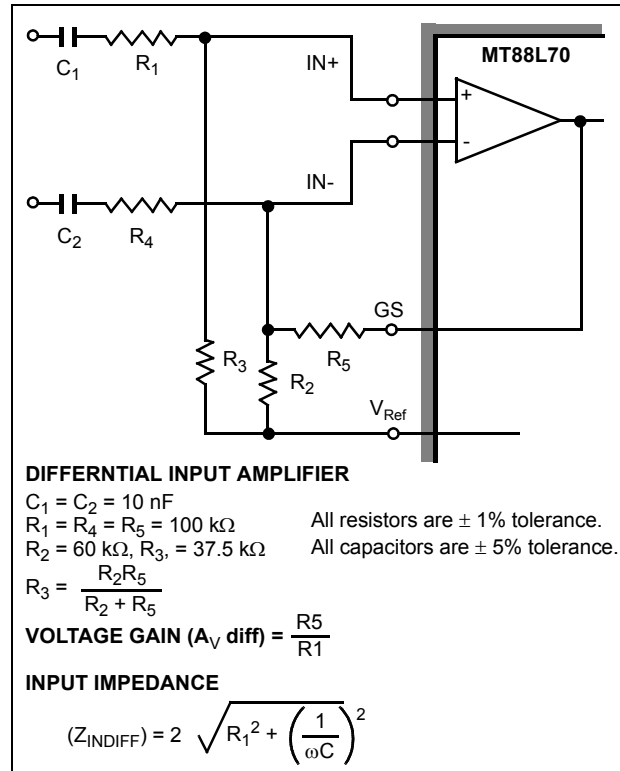
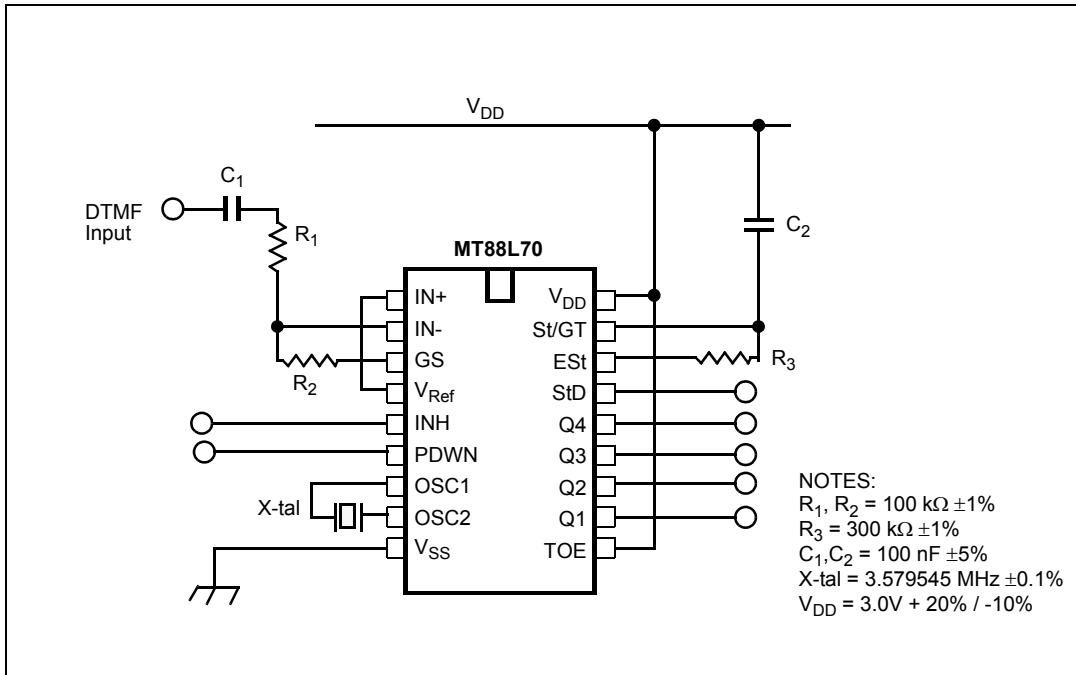

Figure 5 - Differential Input Configuration
Figure 6 - Single-Ended Input Configuration
The input arrangement of the MT88L70 provides a differential-input operational amplifier as well as a bias source (V_{Ref}) which is used to bias the inputs at mid-rail. Provision is made for connection of a feedback resistor to the op-amp output (GS) for adjustment of gain. In a single-ended configuration, the input pins are connected as shown in Figure 6 with the op-amp connected for unity gain and V_{Ref} biasing the input at $1/2V_{DD}$. Figure 5 shows the differential configuration, which permits the adjustment of gain with the feedback resistor R_5 .
The internal clock circuit is completed with the addition of an external 3.579545 MHz crystal and is connected as shown in Figure 6 (Single-ended Input Configuration).
A single-ended input configuration is shown in Figure 6. For applications with differential signal inputs the circuit shown in Figure 5 may be used.
AC Electrical Characteristics - $V_{DD} = 3.0\text{ V} +20\%/ -10\%$, $V_{SS} = 0\text{ V}$, $-40^{\circ}\text{C} \leq T_O \leq +85^{\circ}\text{C}$, using Test Circuit shown in Fig. 6.
AC Electrical Characteristics - $V_{DD} = 3.0\text{ V} \pm 20\% / -10\%$, $V_{SS} = 0\text{ V}$, $-40^{\circ}\text{C} \leq T_o \leq +85^{\circ}\text{C}$, using Test Circuit shown in Figure 6.